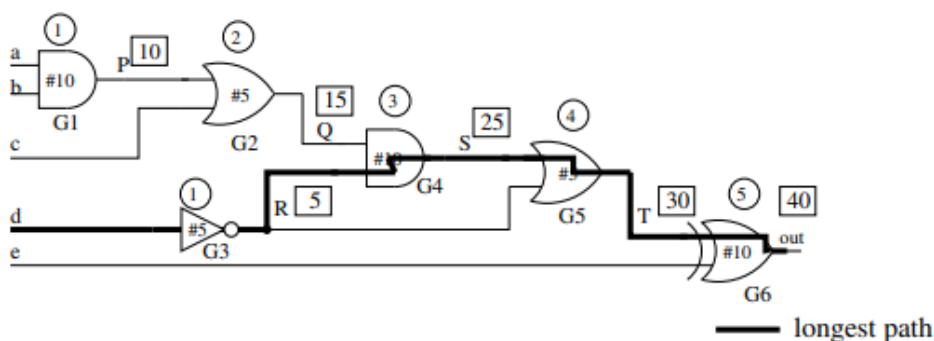

Figure 2
The circles in Fig. 2 represent the level of each node, and the squares represent the cumulative delay.
*Solution.* The maximum delay reported by STA is not accurate as the given circuit has a false path. The logic function of T is  $RQ + R$ . This simplifies to  $R$ . In other words, the final output is independent of  $Q$ , because  $out = e \oplus T = e \oplus R = e \oplus d$ . Note that T does not depend on a, b or c, and hence the delay in computing  $Q = ab + c$  does not contribute to the delay of the output. Hence the actual delay of the output is 30ns, because the true longest path (shown in Fig. 2) does not pass through gate G1 and G2.